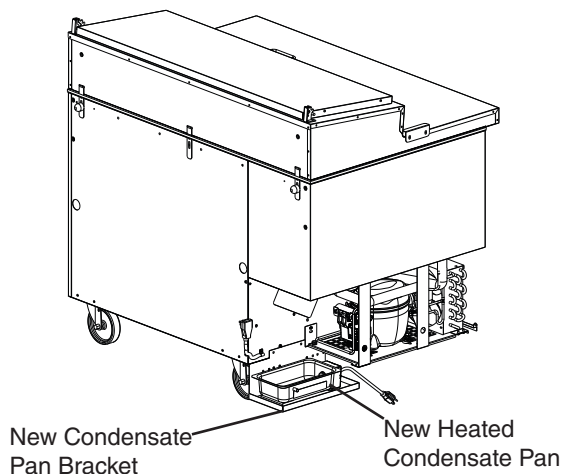

Fig. 4
- 6) Place the new heated condensate pan on the base of the new condensate pan bracket. See Fig. 4.